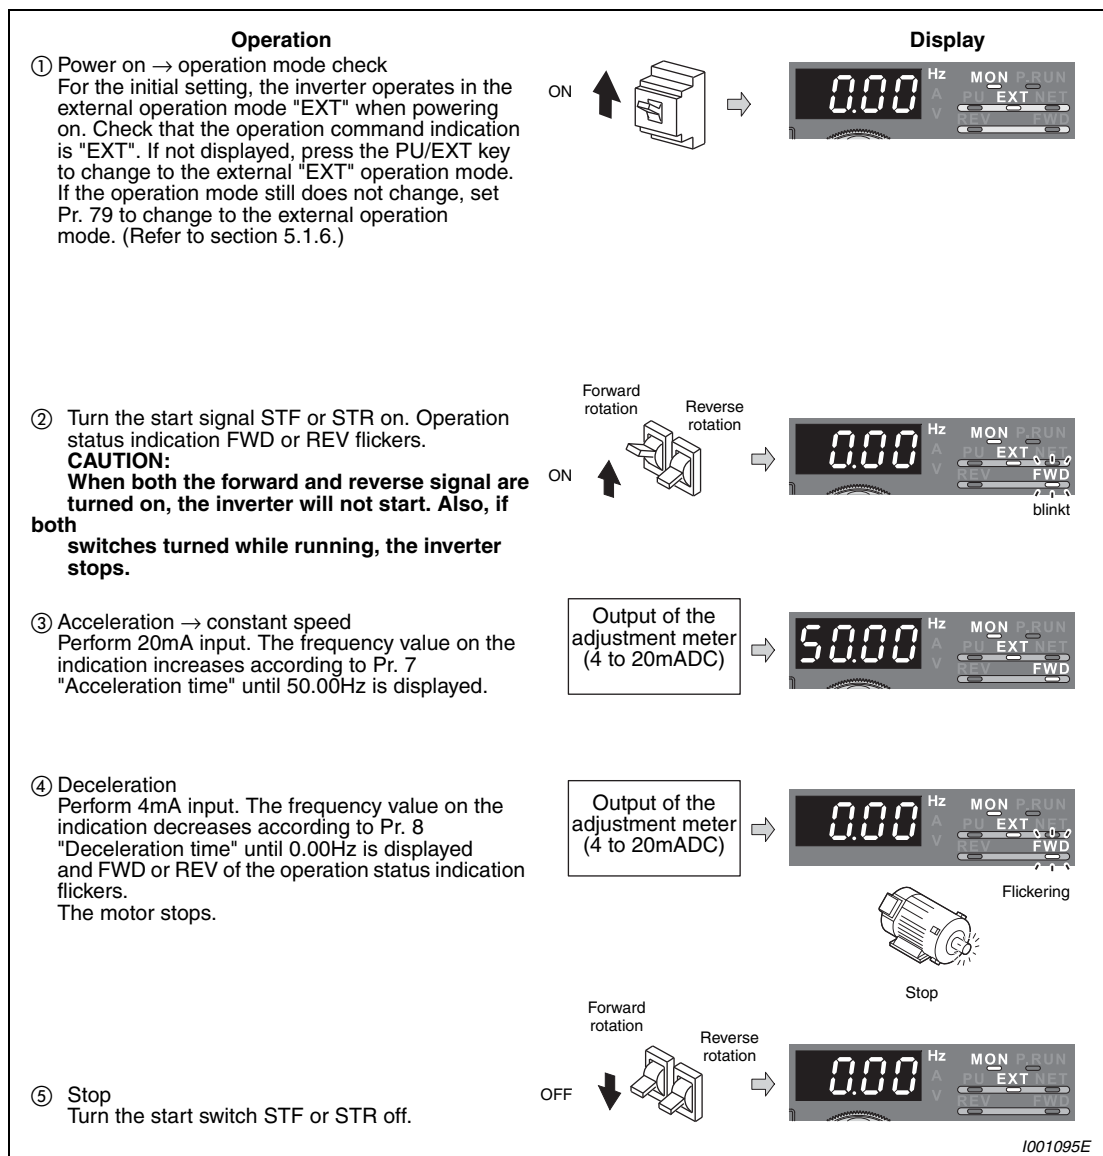

Fig. 5-35: Operate the inverter by using the analog current input
① Turn the digital dial until P.126 (Pr. 126) appears.
② Press the SET key to show the currently set value. The initial value "50.00" (50.00Hz) appears.
③ Turn the digital dial to change the set value to "40.00" (40.00Hz).
④ Press the SET key to set.
⑤ Press the MODE key twice to choose monitor/frequency monitor.
⑥ Turn the start switch STF or STR on to allow 20mA current to flow. (Refer to Fig. 5-35, step ② to ⑤.)